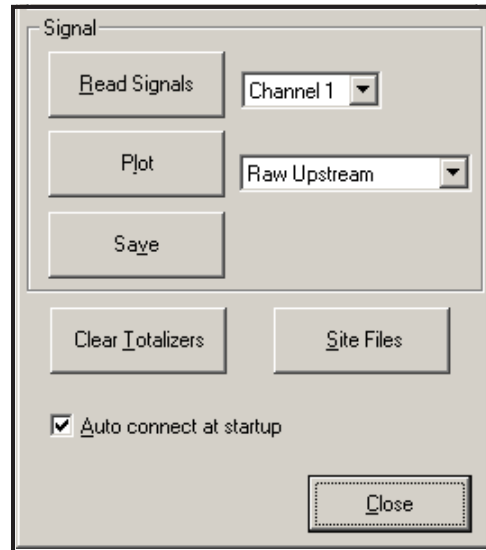

Figure 7: Active Signal Options
- To read a signal from the meter, click on the [Read Signals] button. (If the meter is a multi-channel instrument, open the Channel drop-down menu and click on the desired channel.) After a moment, the *Properties* window appears similar to *Figure 7* below.